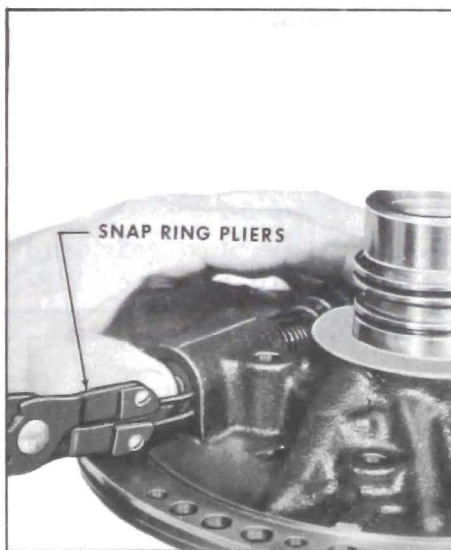

Figure 5-207
5. Compress reverse and modulator boost valve with thumb, then install retaining snap ring. See Figure 5-207.